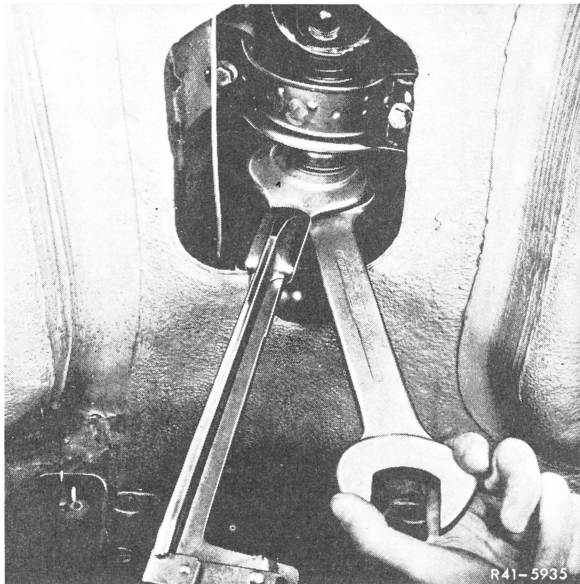

Fig. 7
**16** Tighten clamping nut on universal shaft to 30–40 Nm (3 to 4 kpm) (Fig. 7).